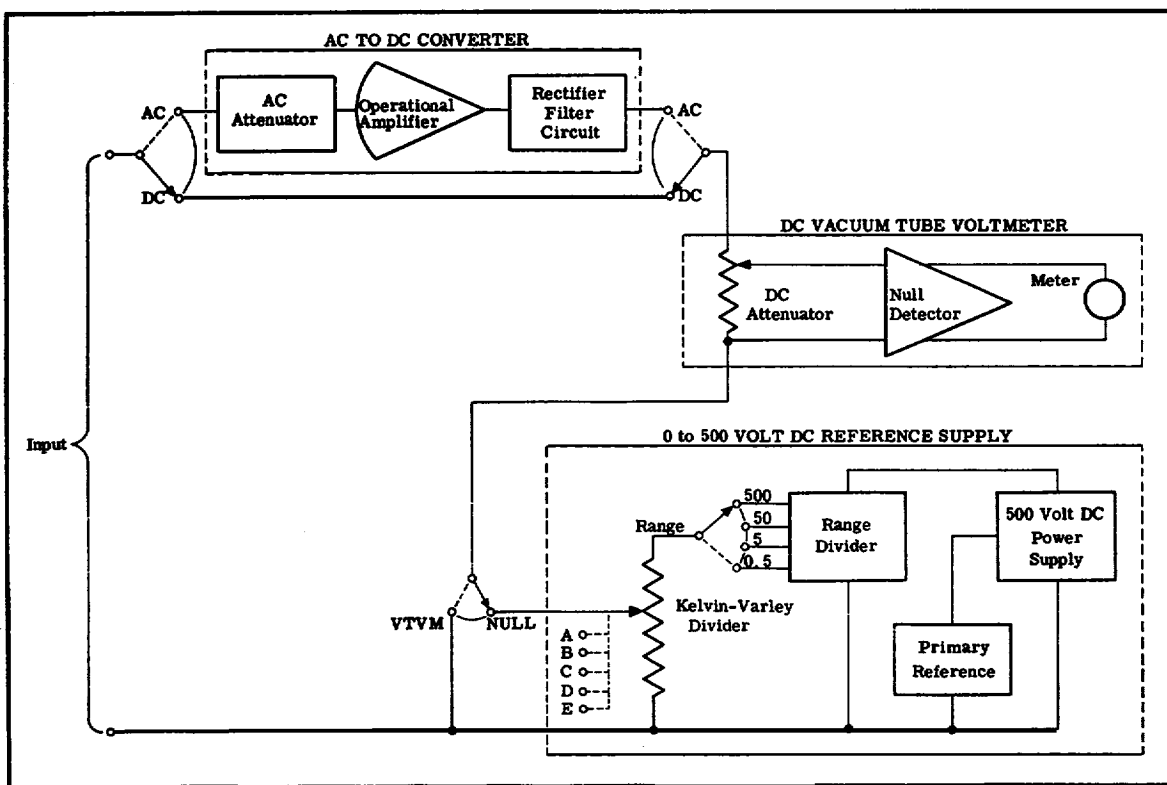

Figure 3-1. 803D AC/DC DIFFERENTIAL VOLTMETER BLOCK DIAGRAM
a. Figure 3-1 shows the block diagram for the 803D AC/DC Differential Voltmeter. As seen in this figure, the circuit consists basically of an AC to DC converter, a DC vacuum tube voltmeter (vtvm), and a 0 to 500 volt DC reference supply. Refer to the functional schematic following section VI for more detail. This schematic is designed to aid in the understanding of circuit theory and troubleshooting. The signal flow is from left to right and the components are laid out in a functionally logical manner.